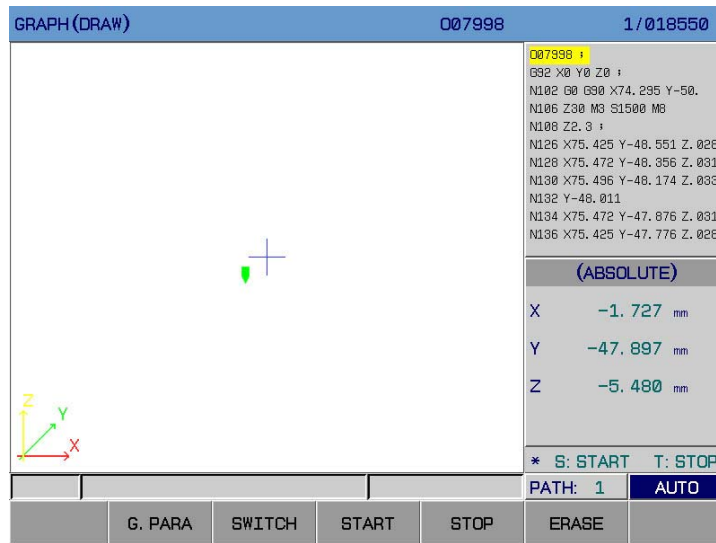

Fig. 3-5-2
2) Graphic page Press soft key **【GRAPH】** to enter this page (See Fig. 3-5-2):